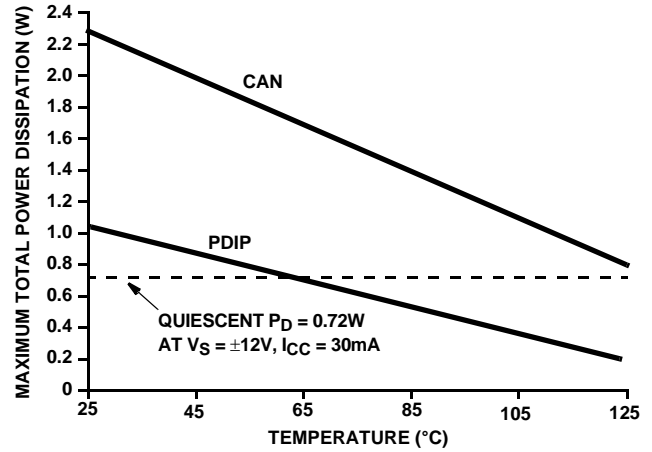

FIGURE 5. MAXIMUM POWER DISSIPATION vs TEMPERATURE
1. Maximum power dissipation, including load conditions, must be designed to maintain the maximum junction temperature below 175°C for the metal can package, and below 150°C for the plastic packages (See Figure 5.).
3. The maximum operating temperature may have to be derated depending on the output load condition. See Figure 5 for more information.
Figure 5 is based on: